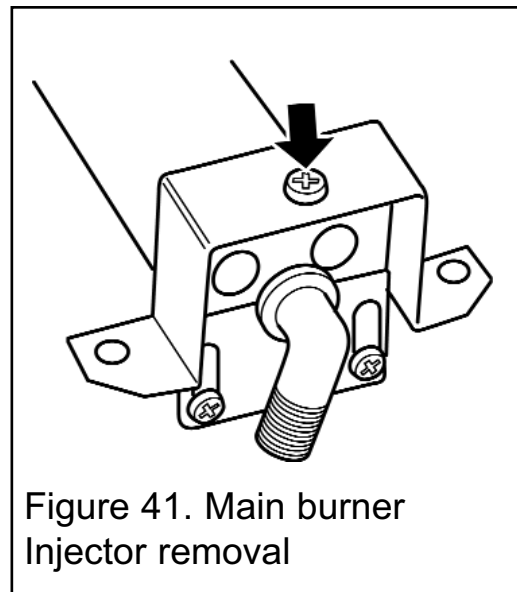

Figure 41. Main burner Injector removal
(See figure 41).
2. Remove the burner clamping screw (See figure 41).